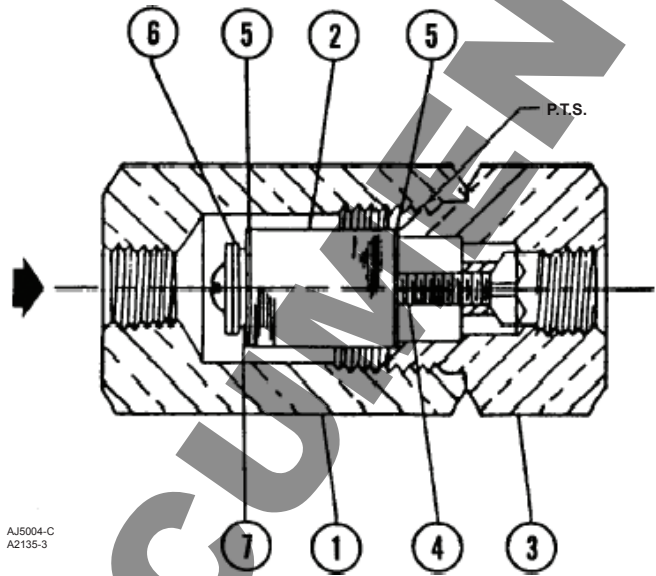

Figure 1. Typical P590 Series Filter Assembly
Using good piping practices, make sure that all tubing and piping are clean and unobstructed. Apply a good grade of pipe compound to the male pipeline threads. Install the filter in the line with the flow in the direction of the arrow shown in Figure 1.
Perform this procedure to clean or replace filter parts in a P590 Series filter assembly. Key numbers are referenced in Figure 1.
Upon reassembly, one of the flat washers (key 5) must go between the filter element and the filter head (key 3) and the other must go between the filter element and gasket. Use a good grade of pipe thread sealant on the filter head pipe threads as shown by P.T.S. in Figure 1.